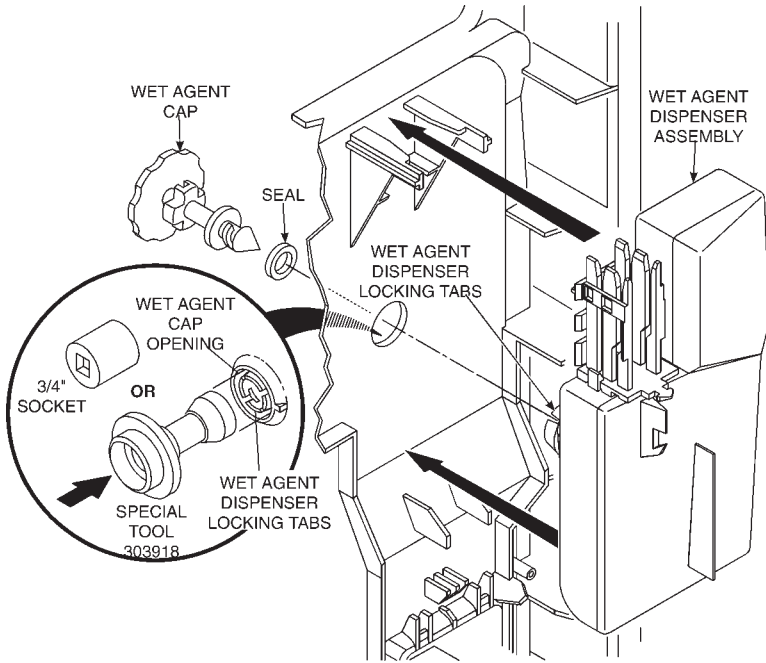

Fig. 2-17
3. Turn the wet agent cap and seal assembly counterclockwise and remove it. (Fig. 2-17)
5. Use Special Tool - Part No. 303918 or a $\frac{3}{4}$ " socket to press over the attaching tabs in the wet agent cap opening. Remove wet agent dispenser assembly. (Fig. 2-17)